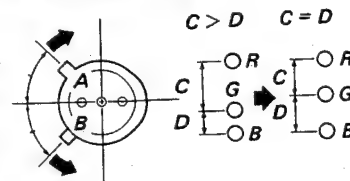

Fig. 1-9.
3. Move the BMC magnet to correct static convergence as shown in Fig. 1-9.